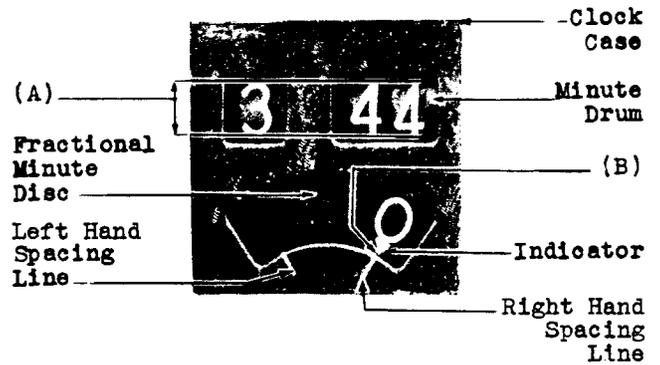

Fig. 3 - Illustrating Relationship Between Clock and Clock Case
2.08 Alignment of Figures on Minute and Hour Drums and Fractional Minute Disc - Fig. 3 (A): With the clock electrically operated, the top of any figure shall not be above the top edge of the openings in the clock case or the bottom of any figure shall not be below the bottom edge of the openings in the clock case. Gauge by eye.
2.09 Alignment of Fractional Minute Disc and Minute Drum - Fig. 3 (B): The minute drum shall complete its advance to the next minute, when the indicator at 0 on the fractional minute disc is approximately in alignment with the right hand spacing line on the clock case. Gauge by eye.